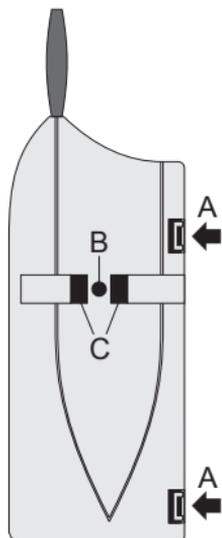

Figure 15
- Attach the door/window contact sensor using the enclosed double-sided tape. Or you can attach it with a screw through the opening 'B'. See figure 15.